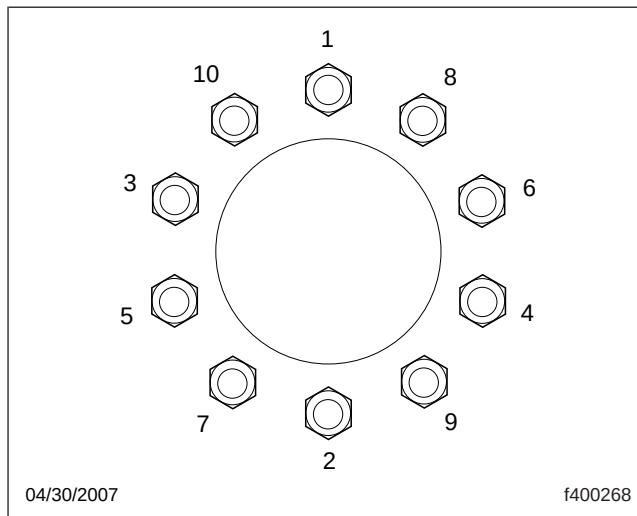

Fig. 3, 10-Hole Disc Wheel Tightening Sequence
11. Tighten the nuts in two stages. Follow the sequence in Fig. 3.
14. After operating the vehicle for 50 to 100 miles (80 to 160 km), retighten the wheel nuts to the original specification, following the tightening sequence in Fig. 3.